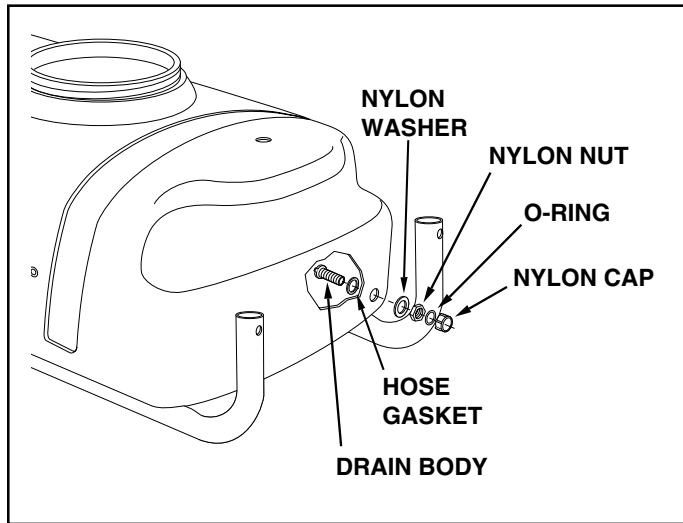

FIGURE 4
8. Install the drain in the rear of the tank as shown in figure 4. Place a 3/4" garden hose gasket onto the drain body and insert the drain body out through the hole in rear of the tank. Outside the tank, assemble the nylon washer, then the nylon nut onto the drain body. Tighten the nut securely enough to prevent leaking, being careful not to damage the plastic parts. Place the O-ring inside the nylon cap and screw the cap onto the end of the drain body. See figure 4.